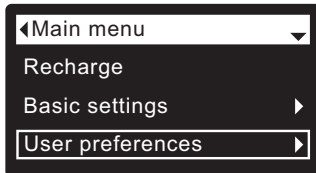

FIG. 55
1. From any of the rolling status screens, press the SELECT (O) button to display the **Main menu**.
2. Press the DOWN (▼) button to scroll through the menu options until **User preferences** is highlighted (See Figure 55).